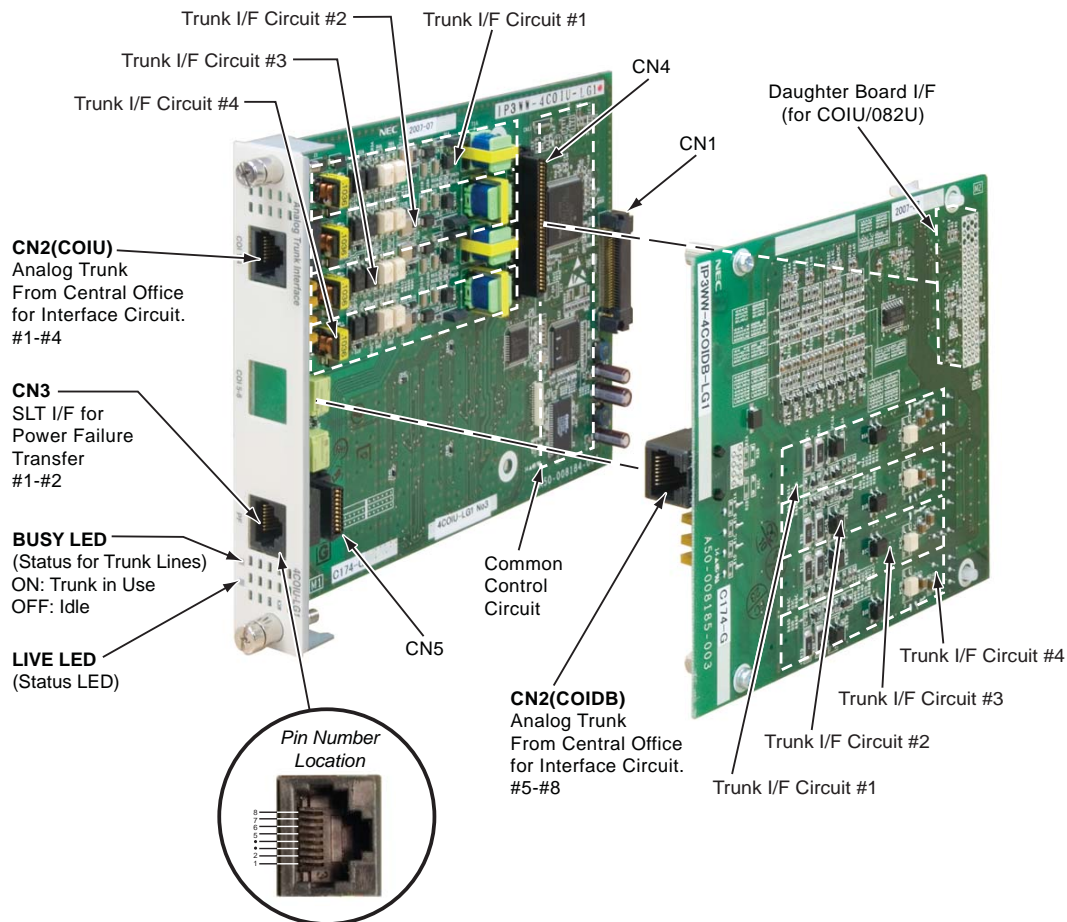

Figure 2-29: 4COIU BLADE
2.7.1 Analog Trunk (4COIU) Blade (Figure 2-29) - P/N 0911072
The 4COIDB is used to provide 4 additional ports for loop/ground start trunks. The blade is connected to a 4COIU blade to provide a total of 8 ports for the combined blade (refer to 2.7.1 Analog Trunk (4COIU) Blade (Figure 2-29) - P/N 0911072 on page 2-59).